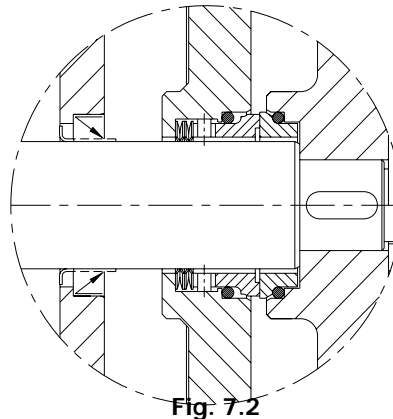

Fig. 7.2
Place the lip retainer (88^a) on the cooled flange (10) ensuring that the lip is correctly positioned. See fig. 7.2